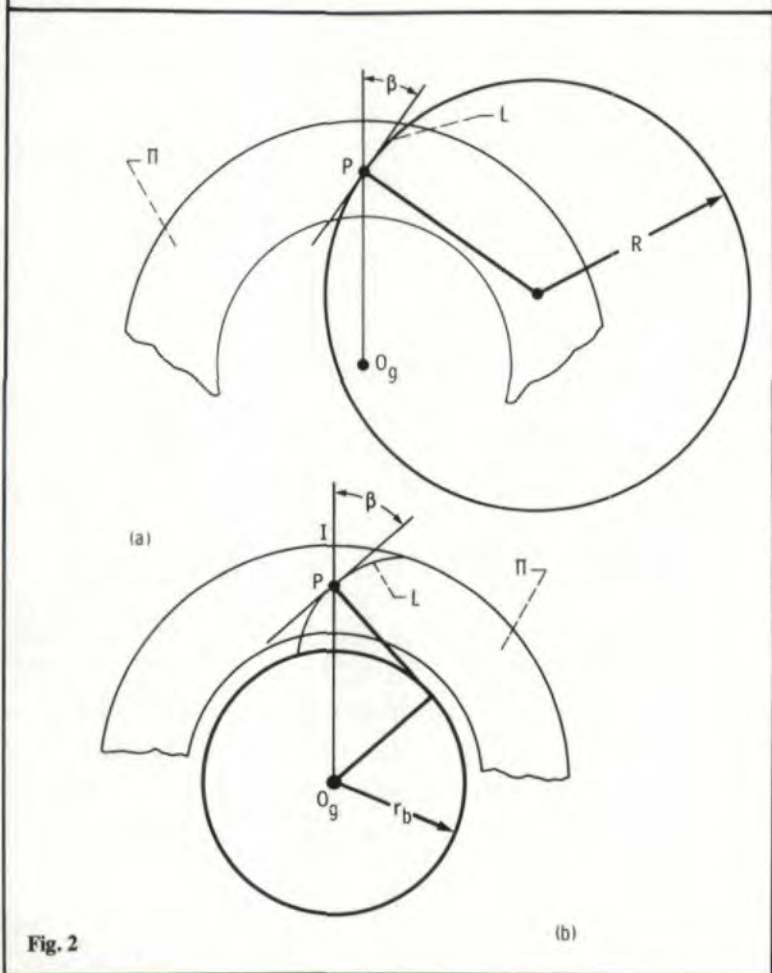
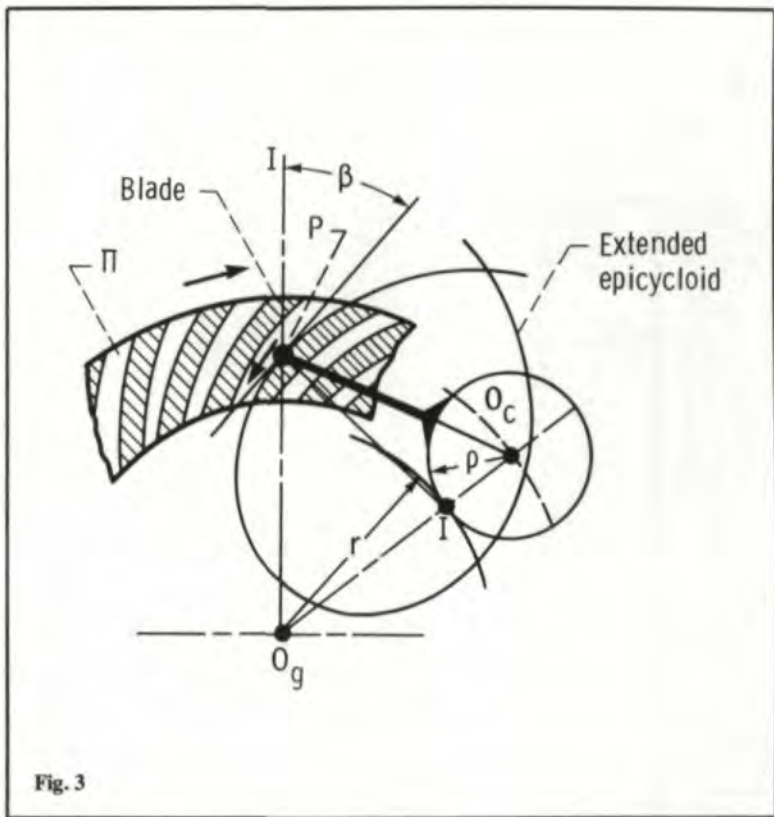

Fig. 2
Fig. 3
- (3) The Cyclo-Palloid System of Klingenberg and Oerlikon System (Fig. 3) where the longitudinal shape is an extended epicycloid, traced out by point  $P$  of the finishing blade of the head cutter. The blade and circle of radius  $q$  are rigidly connected and represent a rigid body. The circle of radius  $q$  rolls over the gear circle of radius  $r$ . Thus these circles are centrodes of the head-cutter and of the generating gear. The head cutter rotates about  $O_c$  and the generating gear rotates about  $O_g$ . Unlike the generation of Gleason's gearing, the rotations of the head-cutter and the generating gear in the case of the Cyclo-Palloid System are related: point  $I$  is the in-
Henceforth, we will designate the direction of the tangent to the longitudinal shape at point  $P$  by  $\beta$ . Point  $P$  is the point of intersection of the instantaneous axis of rotation  $O_g I$  and the shape (Figs. 2 and 3). The longitudinal shape (the spiral) can be right-handed or left-handed, similar to the right-handed and left-handed helical gears. Fig. 3 shows right-handed spirals.